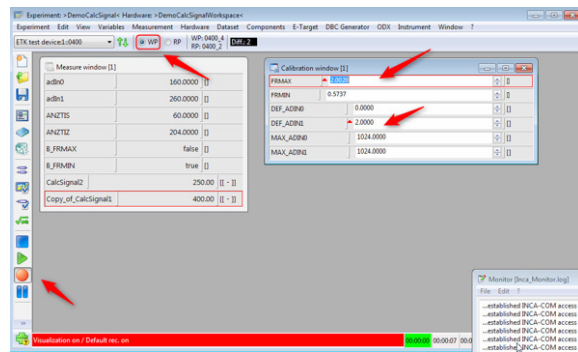

Fig. 7
Start the Visualization and switch to the ECU Working Page (WP), in order to be able to change the calibration values and observe some measurement variables. Recording is also possible (Fig. 7).